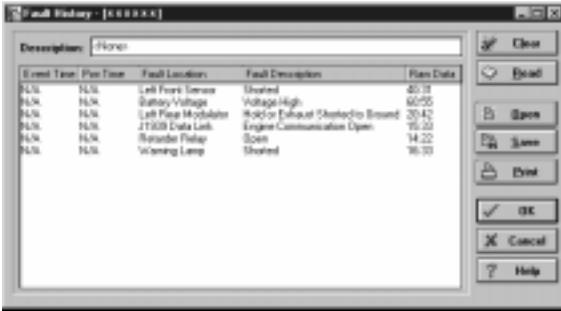

Figure 35
2. A past history can be opened up by clicking the "Open" button and selecting a previously saved history. Refer to figure 35.